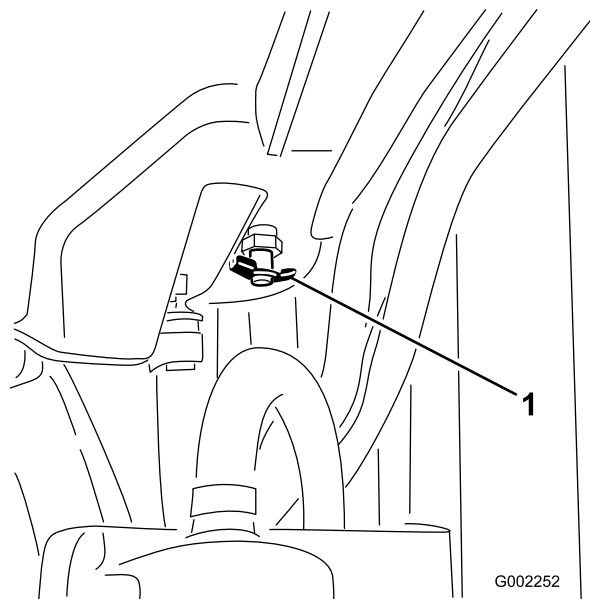

Figure 83
4. Open the drain valve and drain the coolant into the pan (Figure 83).
5. Close the drain valve (Figure 83).